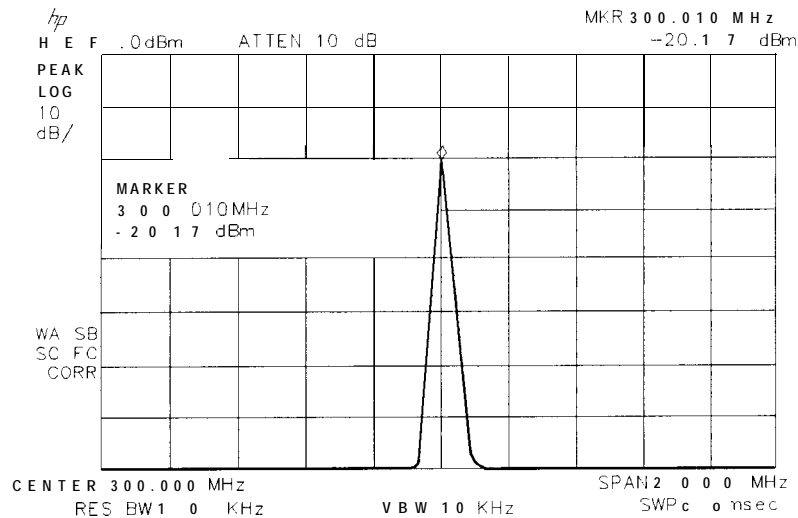

Figure 2-6. Reading the Amplitude and Frequency
5. Determine the amplitude and frequency of the signal. You can either press (PEAK\_SEARCH) or press (MKR) and move the marker to the signal peak. Read the amplitude and frequency. The display screen should look like the one in Figure 2-6. Frequency is displayed horizontally, and amplitude (power) is displayed vertically.